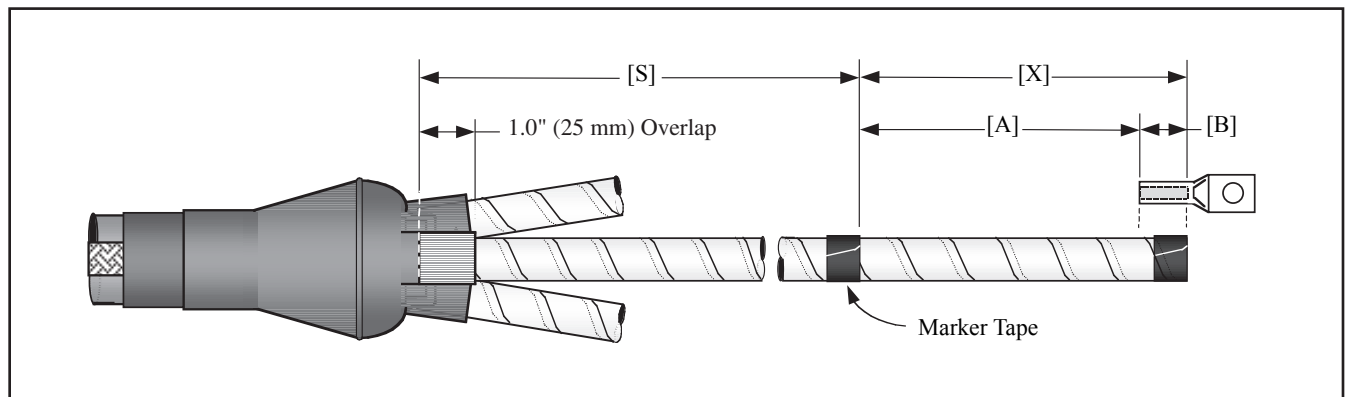

Figure 14
5.1 Place a vinyl tape marker on each cable phase leg at dimension [X] (Figure 14).
5.2 Determine required re-jacketing sleeve length for each phase leg (Distance [S], Figure 14). Be sure to include 1.0" (25 mm) breakout boot finger overlap in measurement.